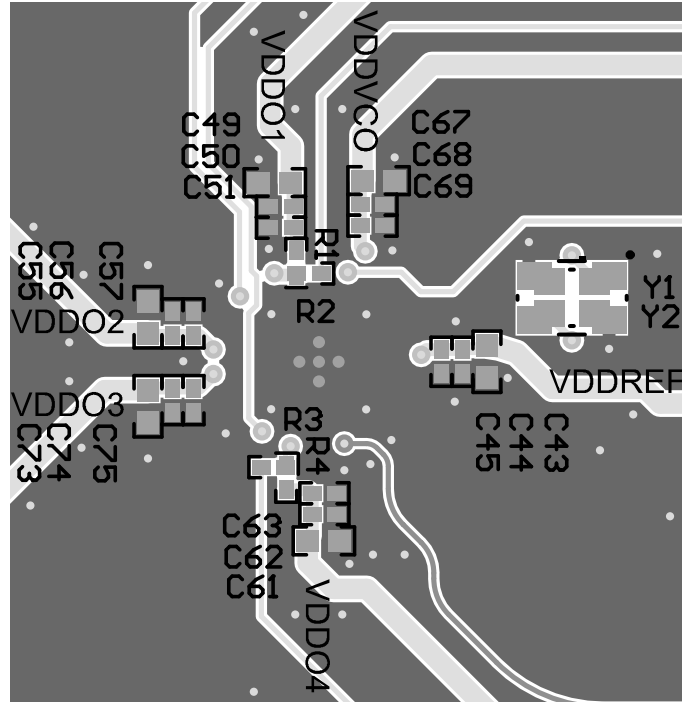

Figure 12-2. Layout Example, Bottom Layer
- Isolate the crystal area, connect the GND pads of the crystal package and flood the adjacent area. Figure 12-2 shows a foot print which supports multiple crystal sizes.
- Place decoupling capacitors with small capacitance values very close to the supply pins. Try to place them very close on the same layer or directly on the backside layer. Larger values can be placed more far away. Figure 12-2 shows three decoupling capacitors close to the device. Ferrite beads are recommended to isolate the different frequency domains and the VDD\_VCO domain.